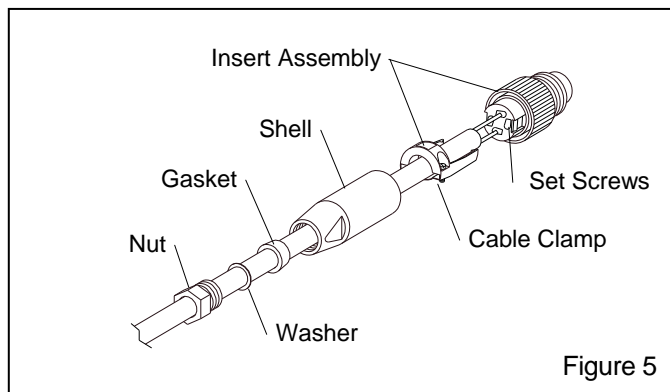

Figure 5
4.7.2 Lo-Profile Connector: Ref. Figure 5